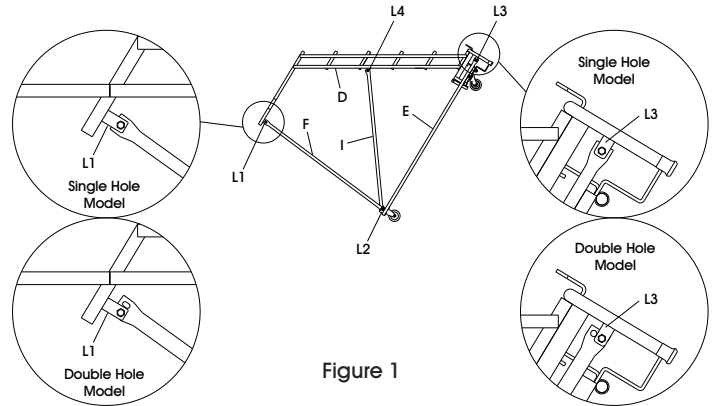

Figure 1
1. Place the ladder stile (D) on the floor. Be sure to assemble on a protective surface so the finish does not get damaged. (See Figure 1)
- Using (6) 3/8-16 x 1/4" hex head cap screws & self-locking nuts, bolt the top (slotted holes) of back panel (F) to the insides of L1. (See Figure 1)
- Bolt the bottom (round holes) of back panel (F) to base panel (E) on the insides of L2. (See Figure 1)
- Bolt base panel (E) to the insides of L3. (See Figure 1)
- Using 3/8-16 x 1/4" hex head cap screws, locate diagonal brace (I) on the inside of L4 and L2. (See Figure 1)